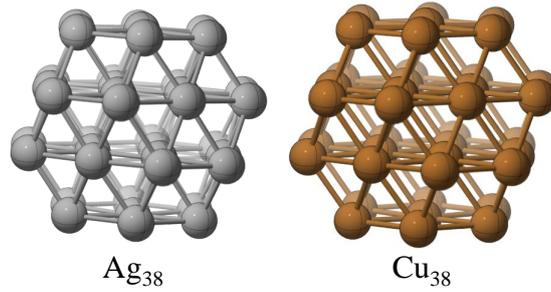

Figure 3.5.1: The global minimum of Ag38 and Cu38.
Step 3: Now we examine the structure by opening the file `Ag38.xyz`. See Figure 3.5.1.